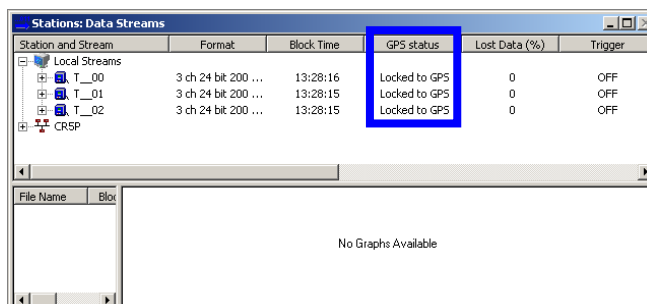
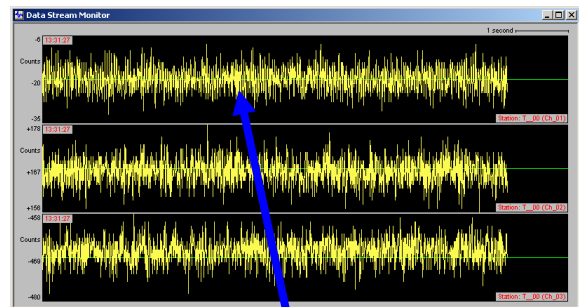

Figure 35. GPS status as ‘Locked to GPS’
Figure 36. Data stream is in yellow
- When GPS is synchronised, the ‘GPS status’ will read “Locked to GPS”, as shown in Figure 35. The data stream in the ‘Data Monitor’ will be in yellow, as shown in Figure 36.